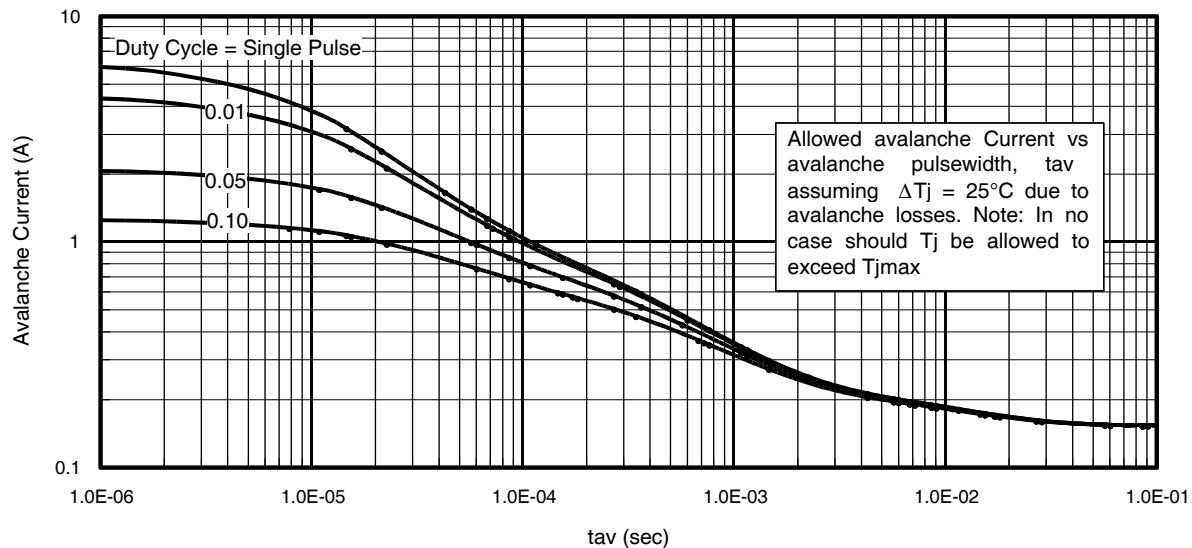

Fig 14. Typical Avalanche Current Vs. Pulsewidth
- ① Repetitive rating; pulse width limited by max. junction temperature. ④ R_{θ} is measured at T_J of approximately 90°C .
② Starting $T_J = 25^\circ\text{C}$, $L = 0.32\text{mH}$, $R_G = 25\Omega$, $I_{AS} = 13A$. ⑤ Limited by T_{jmax} . See Figs. 14, 15, 17a, 17b for repetitive avalanche information
③ Pulse width $\leq 400\mu s$; duty cycle $\leq 2\%$.
Notes on Repetitive Avalanche Curves , Figures 14, 15:
7. ΔT = Allowable rise in junction temperature, not to exceed T_{Jmax} (assumed as 25°C in Figure 14, 15).